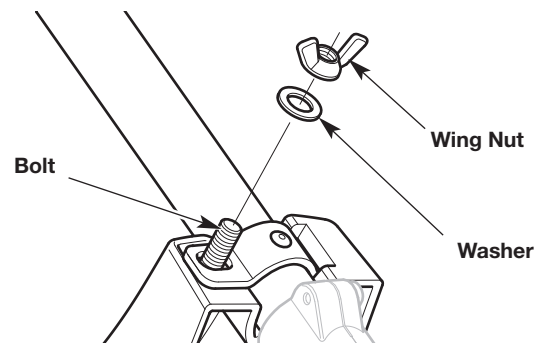

Fig. 4
4. Place the washer onto the bolt (Fig. 4).
5. Screw the wing nut onto the bolt until the cutting head shield is firmly in place (Fig. 4).